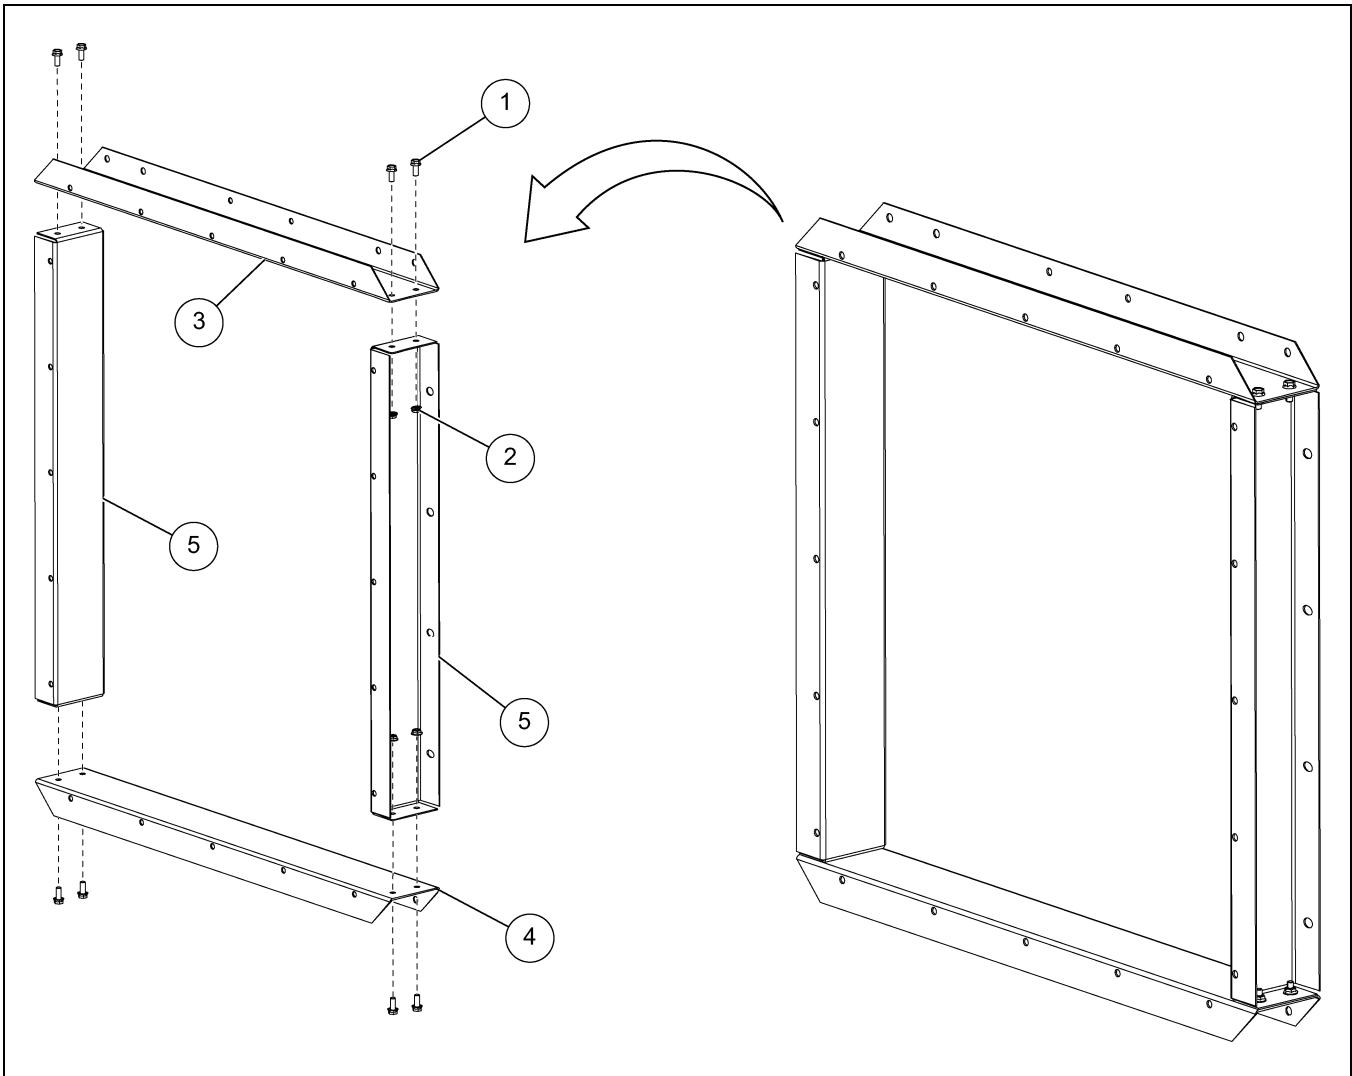

Figure 2 Adapter Assembly (C-9280)
1. Assemble the top plate (3) and bottom plate (4) to the two side plates (5) using eight 5/16" x 3/4" flange bolts (1) and 5/16" flange nuts (2). (See Figure 2.)